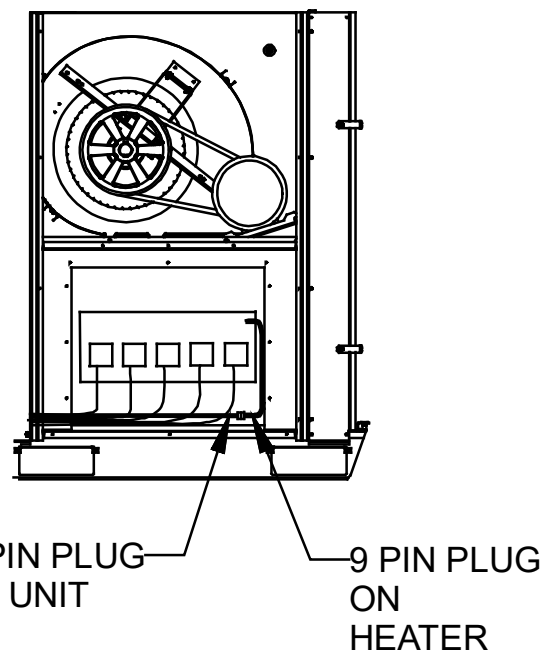

Figure 5
9. Connect the 9-pin plug from the unit to the 9-pin plug in the heater kit in figure 5.